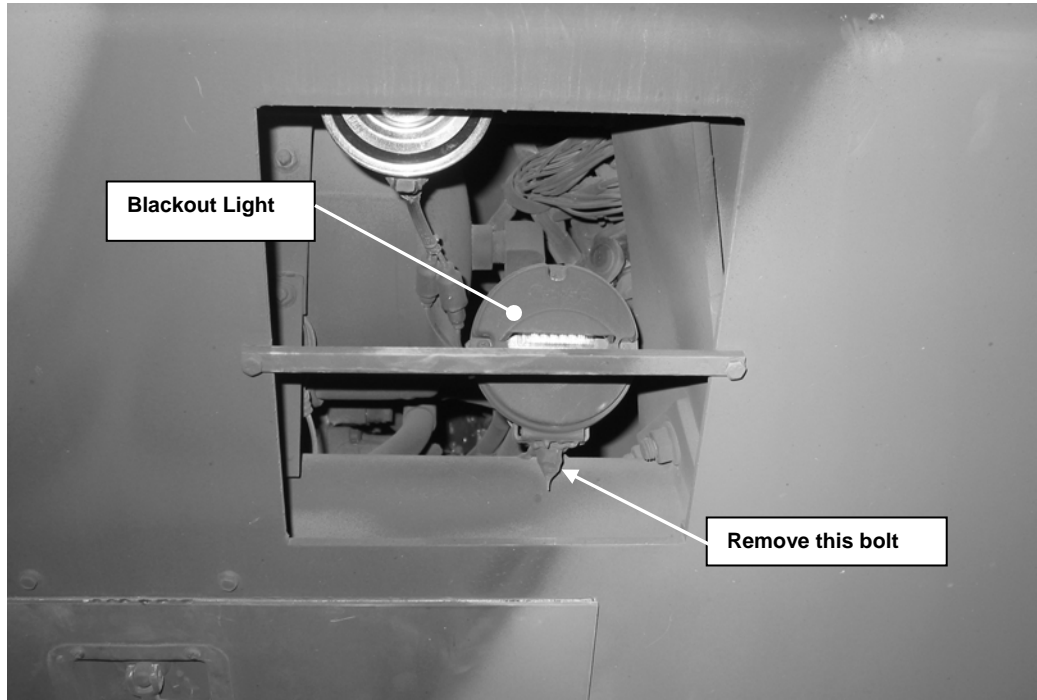

**Figure 5. Front vehicle components to be removed.**
- e) Remove the Brush Guard mounted to the front of the vehicle (see Figure 5). The Brush Guard is mounted all around its perimeter with bolts and nuts. The Brush Guard weighs approximately 100 lb, and must be supported before removing all of the fasteners.
- f) Remove the Glass Windshields and the rubber retaining channel (see Figure 5).
- h) Remove both Headlights located in front of the vehicle (see Figure 5). This is done by removing the three nuts that attach the Headlight to the cab. The nuts may be found inside the vehicle just behind the light. On the passenger side, the lower section of the glove box must be removed to access these nuts. Remove and mark the three wire connectors on the back of each light so that the same connection locations may be used when the lights are re-installed.